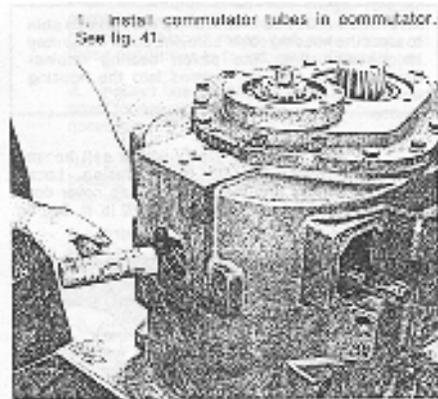

Figure 41. Installing Commutator Tubes in Commutator
1. Install commutator tubes in commutator see fig.41.